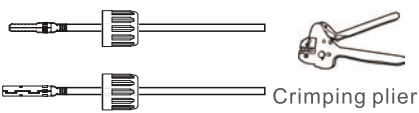

Figure 4.12 Crimp the contact pin to the wire
3. Crimp the contact pin to the wire using a proper wire crimper. (see Figure 4.12)